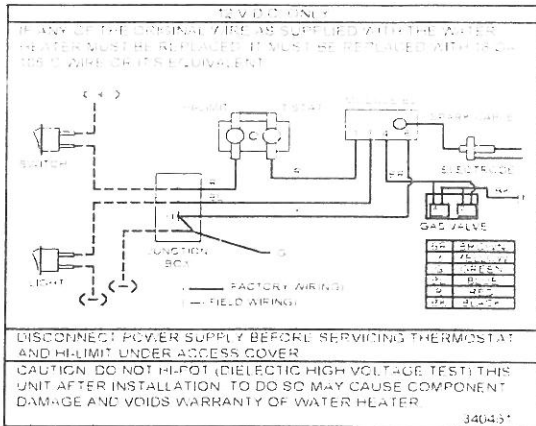

Figure 5
- Make the 12 Volt D.C. electrical connections following the wiring diagram illustrated in Figure 5.